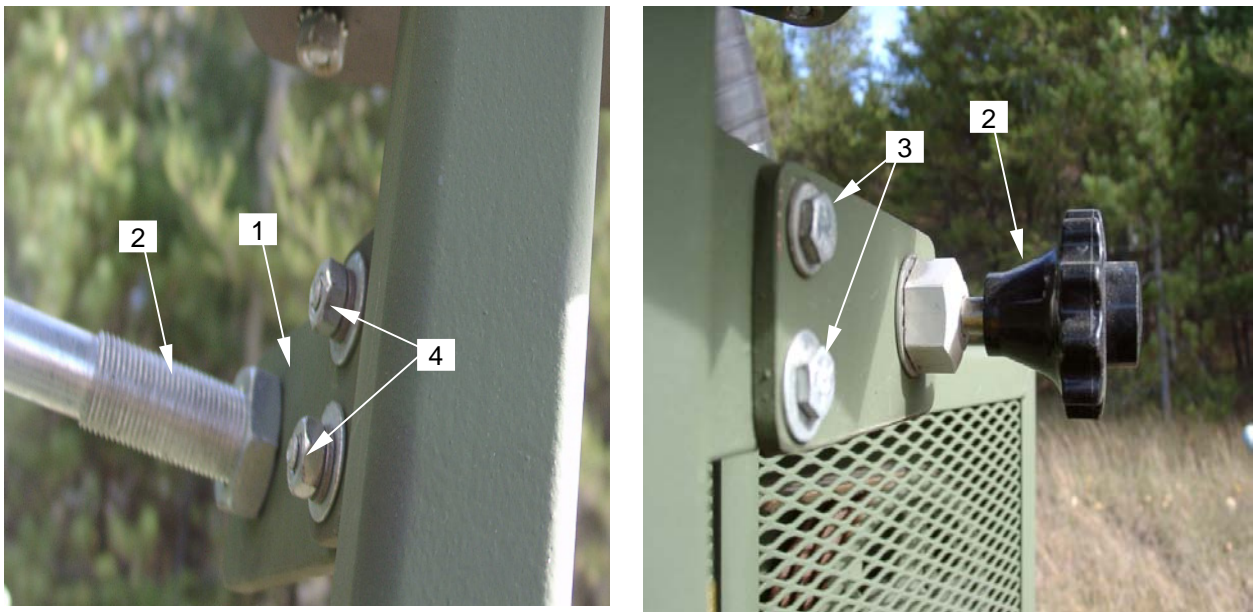

Figure 1. Removal of Throttle
1. Remove throttle mounting plate (**figure 1, item 1**) with throttle attached (**figure 1, item 2**), by removing two hex bolts (**figure 1, item 3**), nuts, flat and lock washers (**figure 1, item 4**). Retain hardware. Do not disconnect throttle from engine. Move the disconnected throttle linkage out of the way during replacement of the pulley guard.